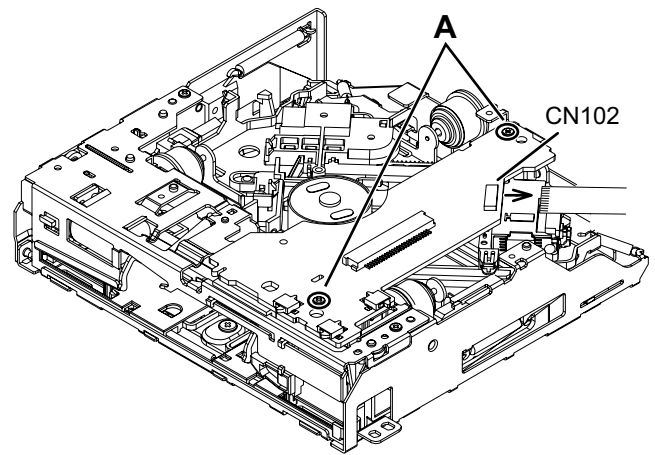

Fig.3
- (3) Disconnect the flexible wire from the pickup connected to the connector **CN102** on the Mecha control board. (See Fig.3)
- (4) Remove the 2 screws **A** attaching the Mecha control board. (See Fig.3)